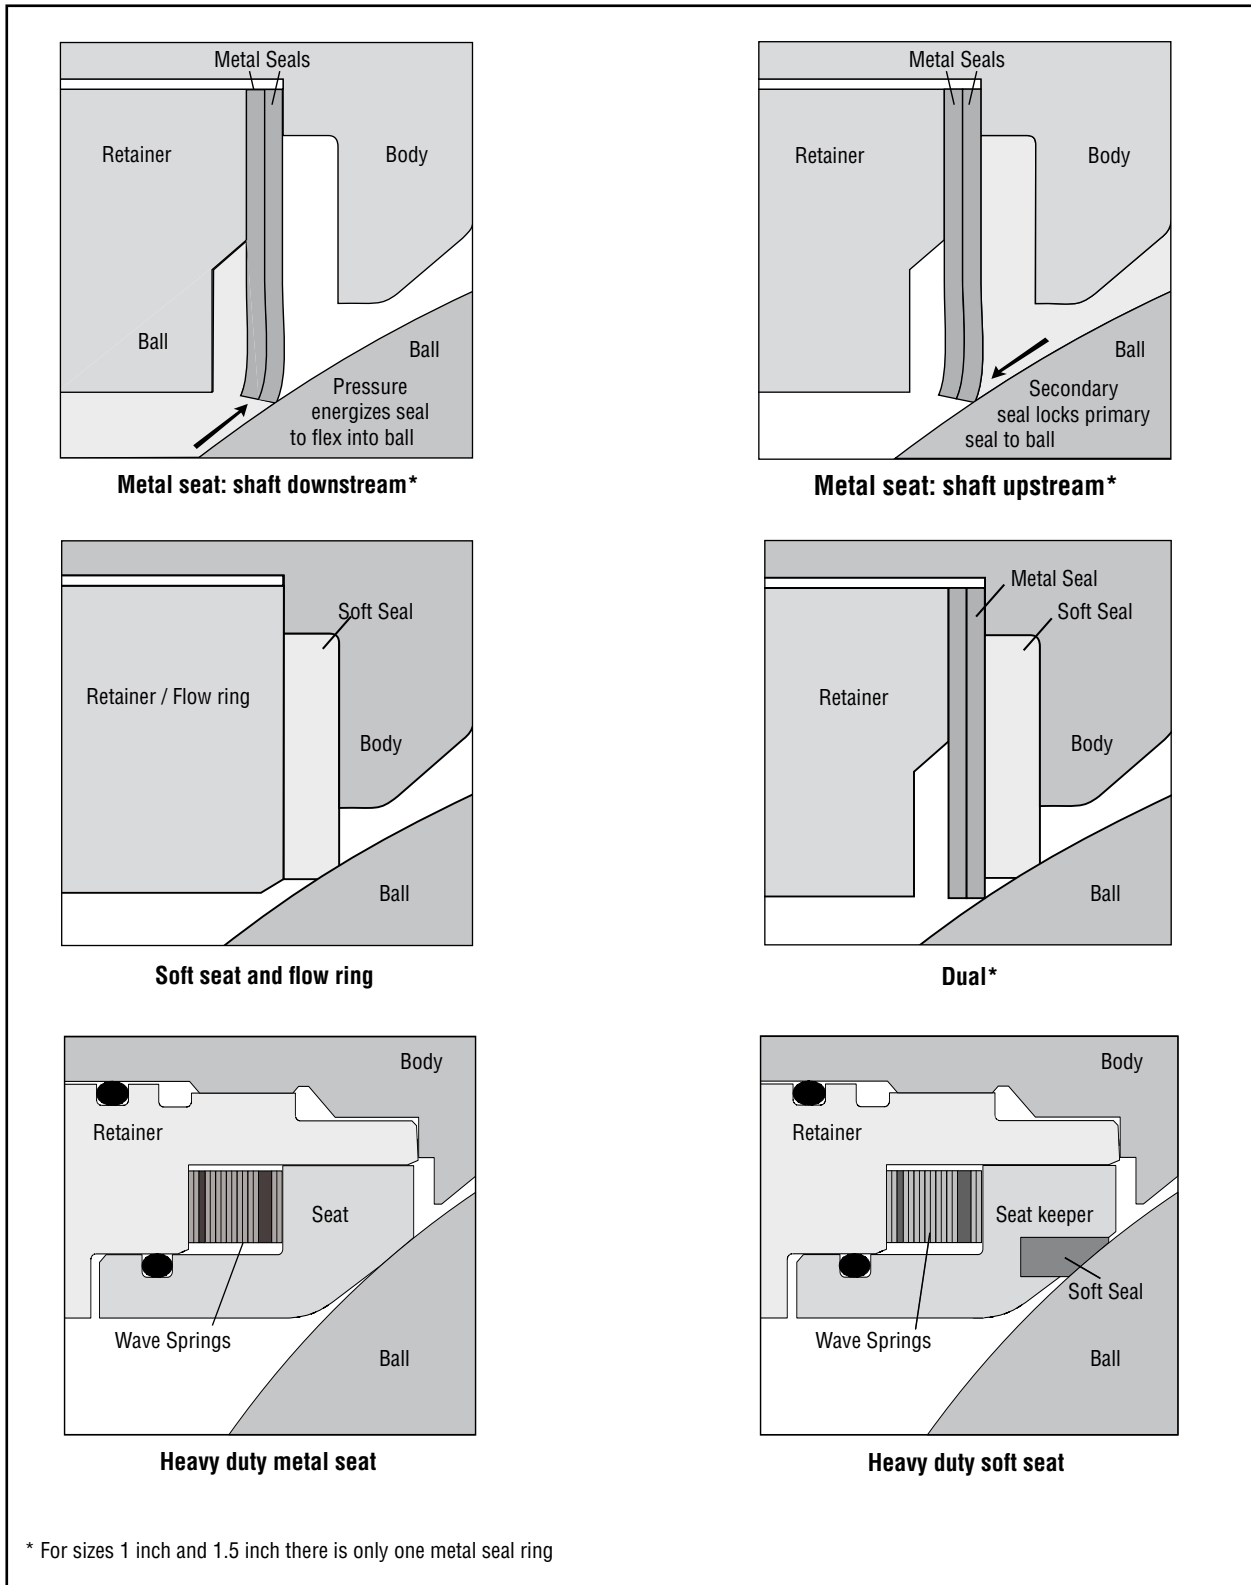

Figure 4: Seat Configurations
8.2.13 Replace the seat as applicable to the valve. (Refer to Figure 4.)
For metal seats, insert the two metal seal rings into the body. (See note on Figure 4.)
For dual seats, insert the soft seal ring, followed by the two metal seal rings into the body. (See note on Figure 4.)